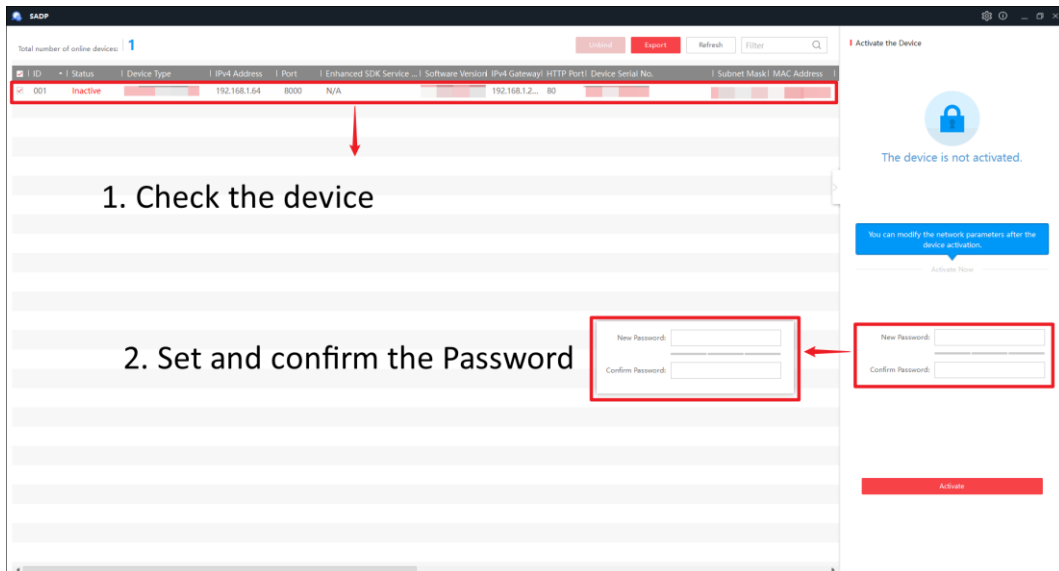

Figure 6-1 Activate Camera
Step 2 Check the device to be activated, set the device password at "Activate Device", and click "Activate" to complete activation, as shown in Figure 6-1.